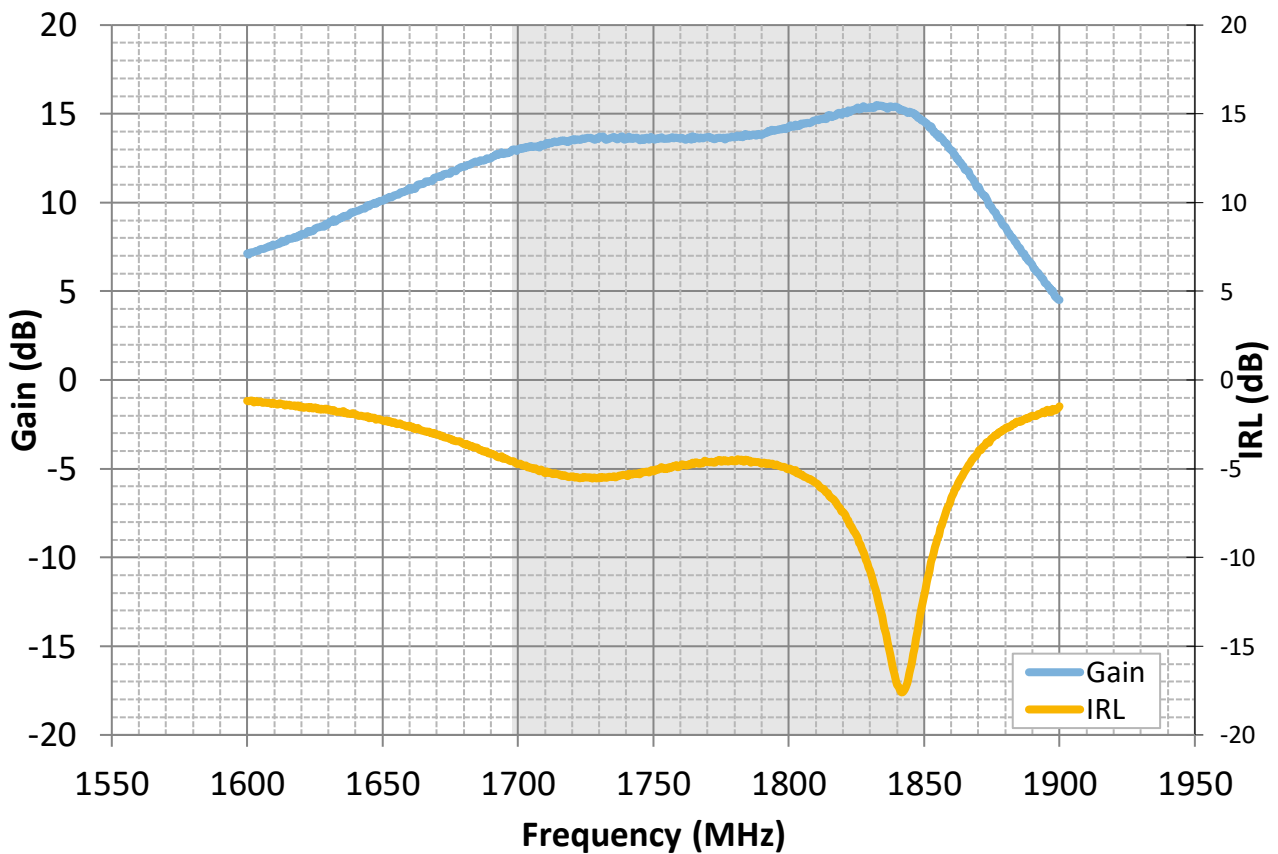

Figure 1. Gain & IRL vs Frequency
- Figure 1. Gain & IRL vs Frequency 6